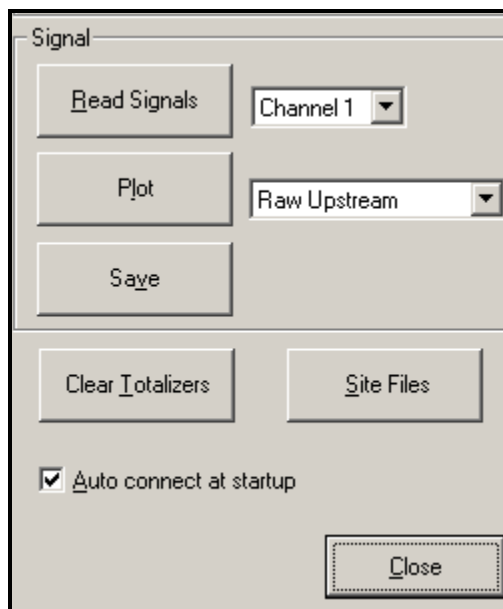

Figure C-11: Active Signal Options
1. Click on the *Read Signals* button. (If the meter is a multi-channel instrument, open the Channel drop-down menu and click on the desired channel.) After a moment, the *Properties* window appears similar to Figure C-11 below.